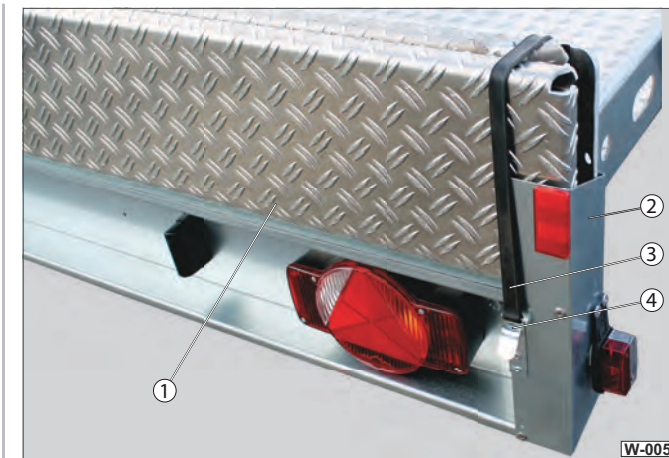

Fig. 5 Checking loading ramps
- ▶ Regularly check (at least every 6 months) the condition of the loading ramps (Fig. 5 /1) for cracks, deformation.
- ▶ Check the guides (Fig. 5 /2) for deformation.
- ▶ Check that the elastic straps (Fig. 5 /3) do not show any cracks.
- ▶ Check the latch eye / latch hook (Fig. 5 /4) for deformation.